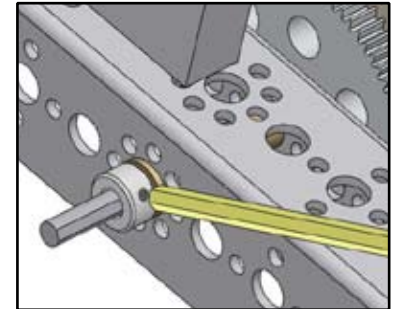

Figure A10
7) To lock the axle in place, put an axle set collar over the end and push it against the bushing (Figure A10). Turn the collar until the screw is facing the flat side of the axle. Use the 1/16" hex wrench to secure it to the axle.